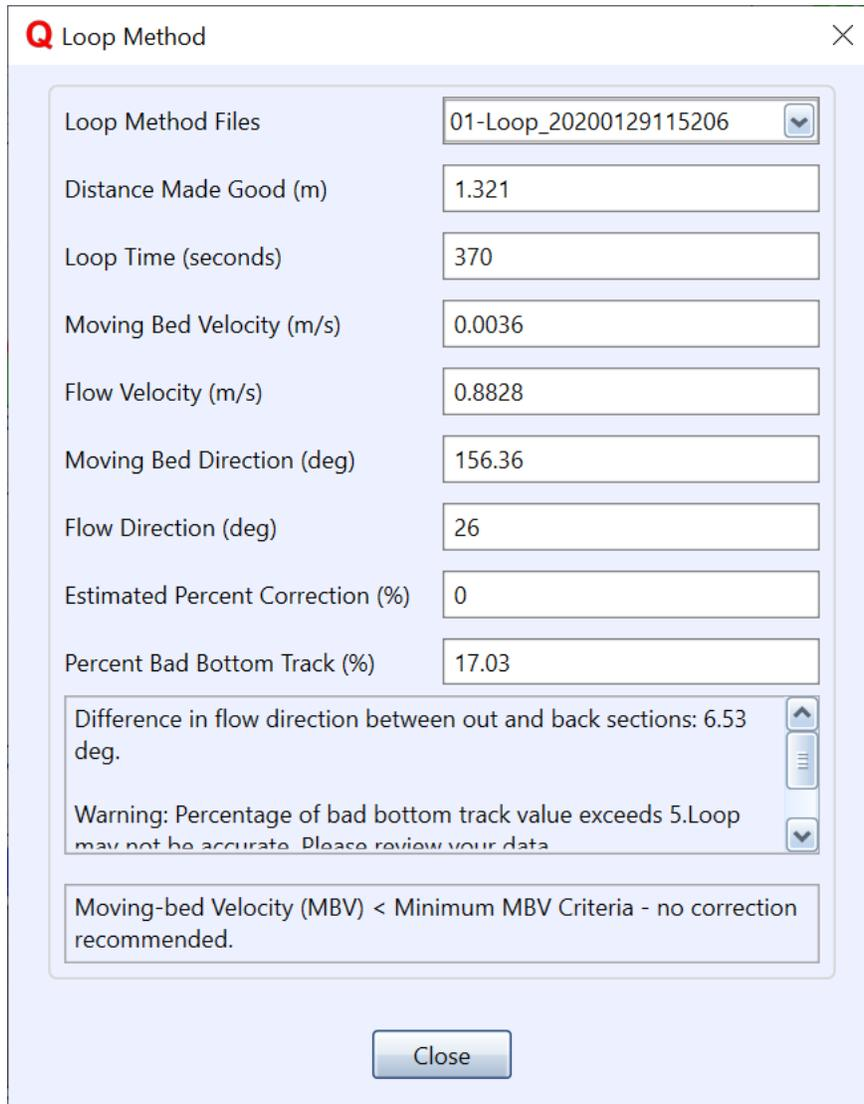

Figure 73. Loop Measurement Results
- The results of the Loop measurement will be displayed automatically (shown in Figure 73).
Loop Measurement warnings and information are displayed near the bottom, and the final recommendation for a correction is displayed at the bottom. Figure 73 shows the results of a Loop Measurement with no correction recommended.